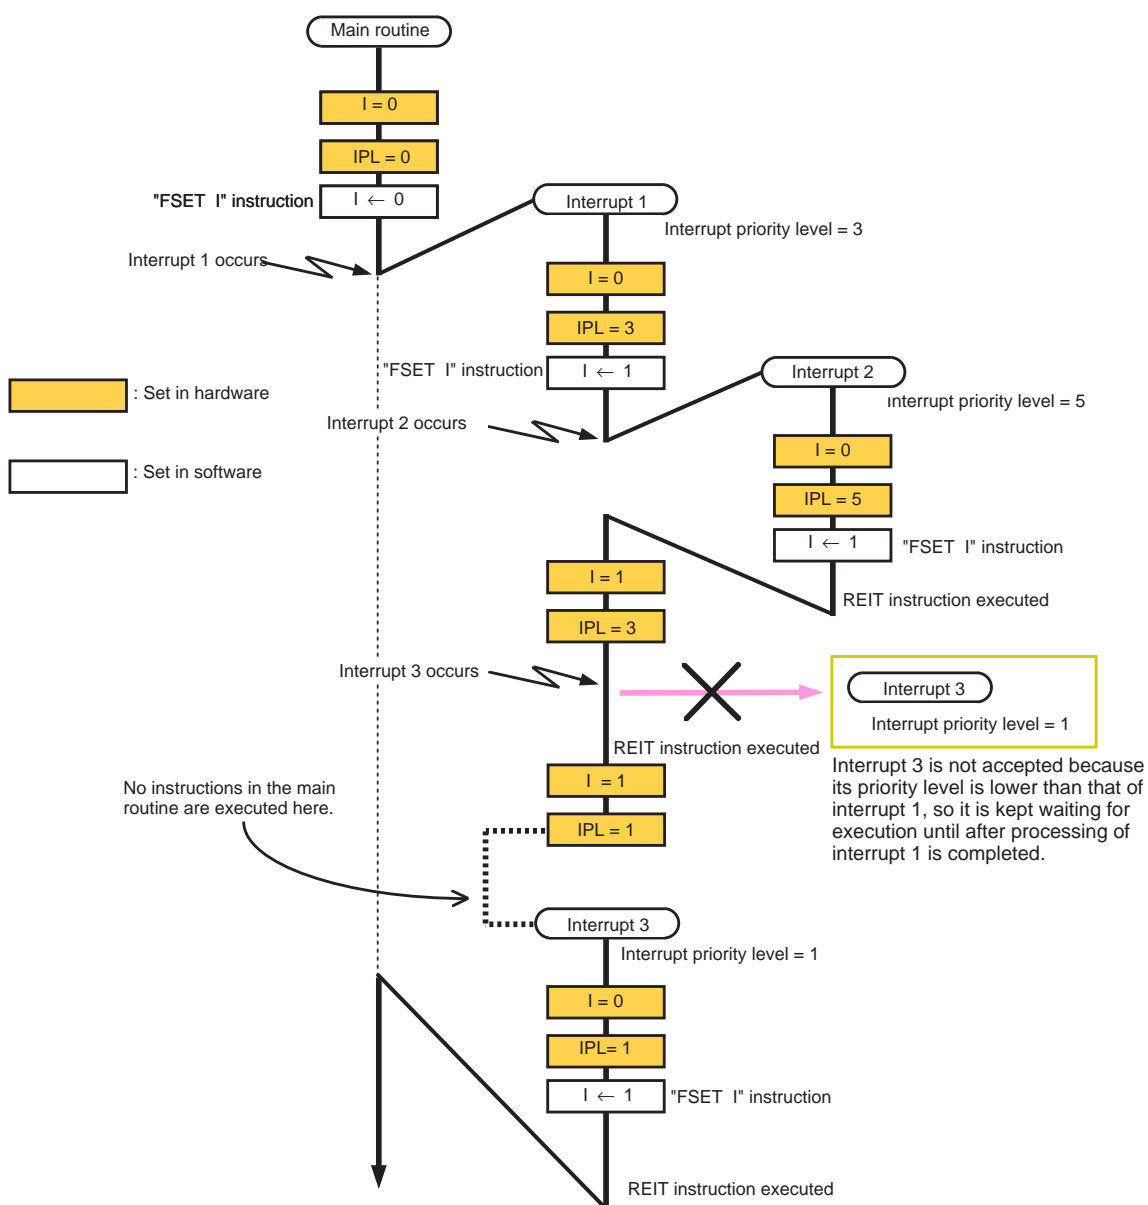

Figure 4.3.8 Execution example of multiple interrupts
As an execution example for multiple interrupts, or interrupts generated while an interrupt being serviced, an execution flow is shown in Figure 4.3.8 where multiple interrupts (1), (2), and (3) occur.
- (1) Interrupt 1 occurs when executing the main routine
- (2) Interrupt 2 occurs when executing interrupt 1
- (3) Interrupt 3 occurs when executing interrupt 2